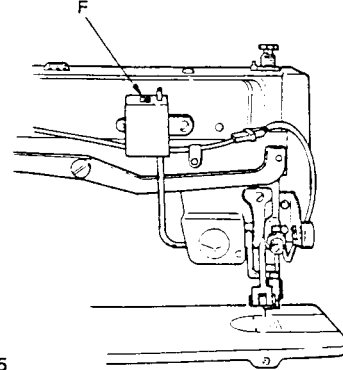

Fig. 15
- Turn the wiper switch **F** off when sewing operation does not require the wiper. (Fig. 15)